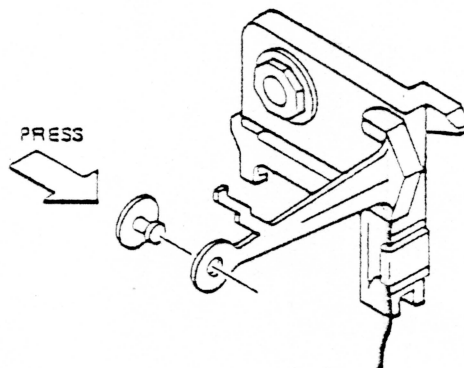

FIGURE 2. HEAD LOAD BUTTON REPLACEMENT
- c. To install load button, press the button into the arm, from the head side, and it will snap into place. Reference figure 2.